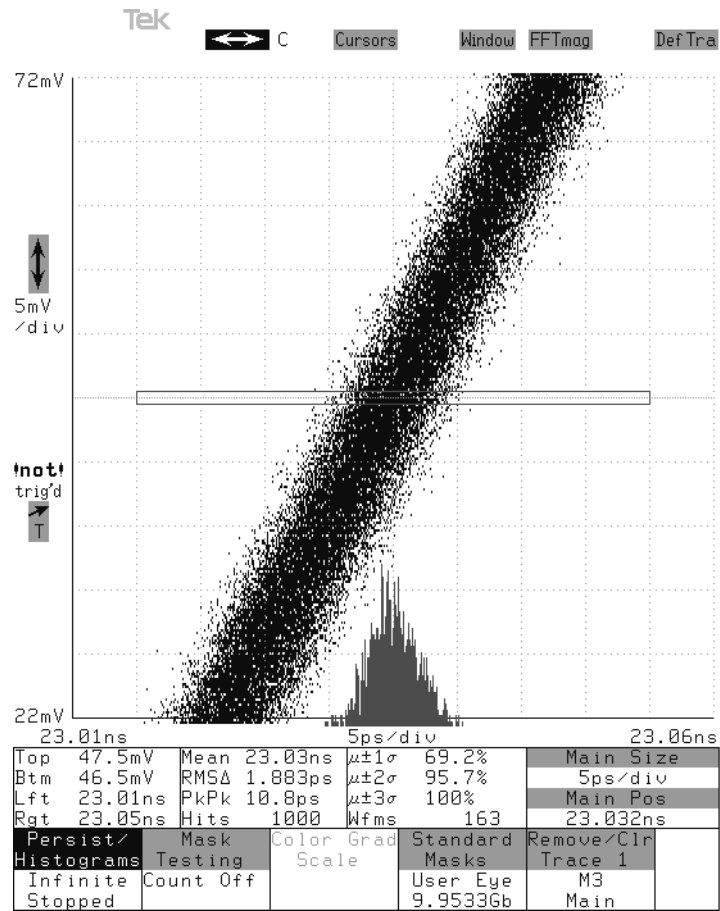

Figure 31: Random jitter histogram
- d. Define a horizontal histogram across the middle of the display with a height of 1 mV (see Figure 31). Set the display mode to STOP on N waveforms where N is set to 1000; touching the STOP ON N button in the Display menu will begin an infinite persistence acquisition of the waveform which will stop acquiring after 1000 waveforms have been accumulated.